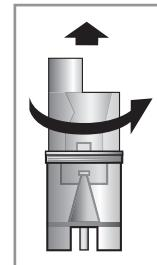

Fig.1
2. Remove the top of the nebulizer by turning it counterclockwise (Fig.1).